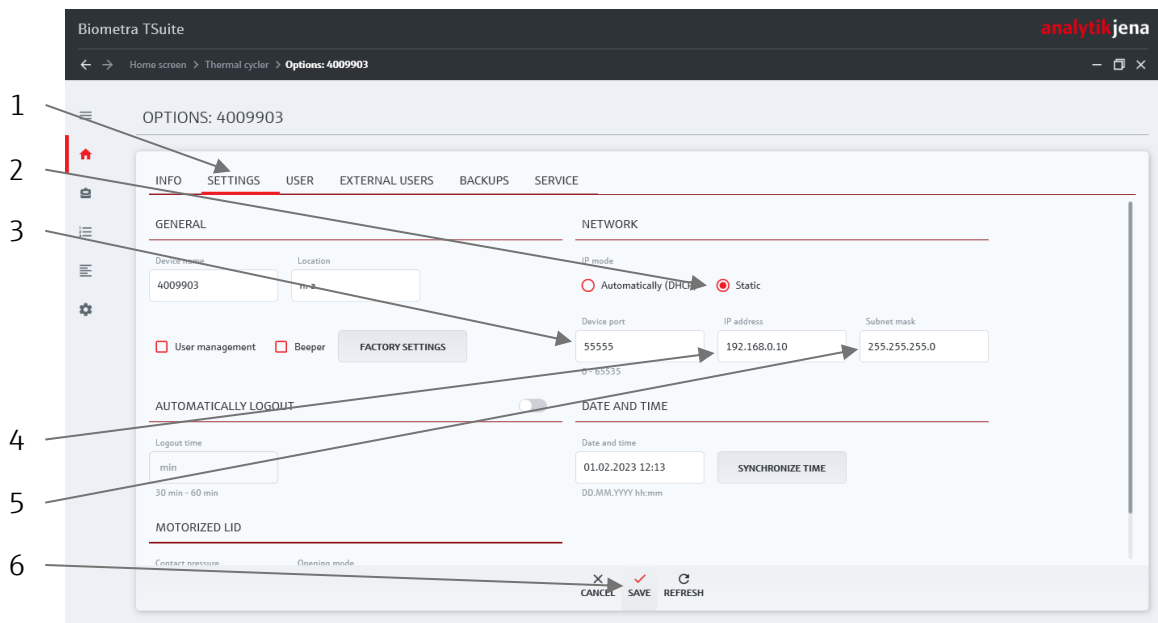

Fig. 8 Biometra TRobot II network settings
- Set the network settings as described below Fig. 8.